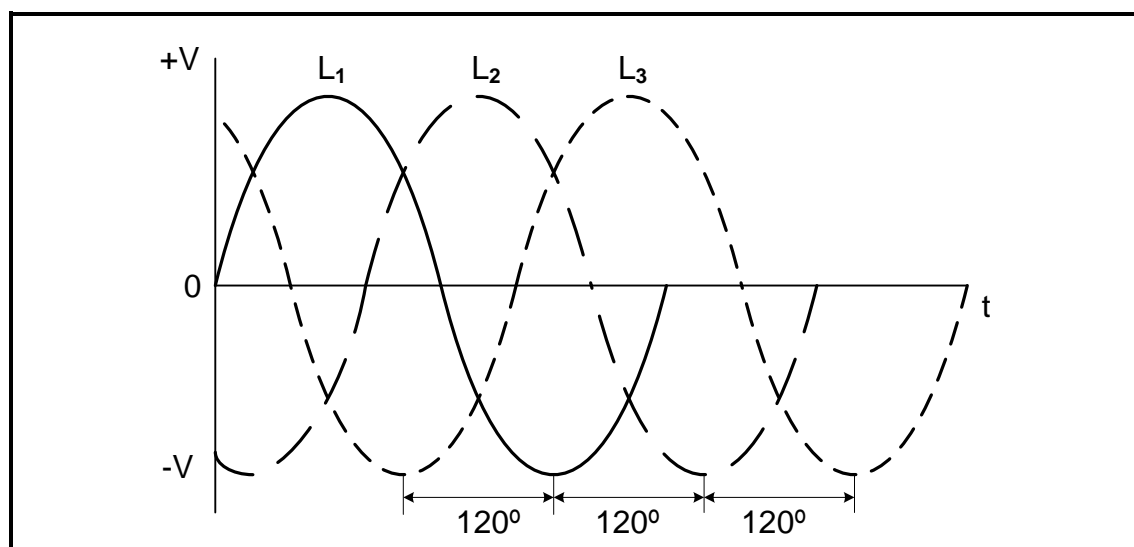

FIGURE 4.1: THREE-PHASE WAVEFORM
4.1 Refer to FIGURE 4.1 below and answer the questions that follow.
- 4.1.3 Draw a phasor diagram for the waveforms in FIGURE 4.1. (5)